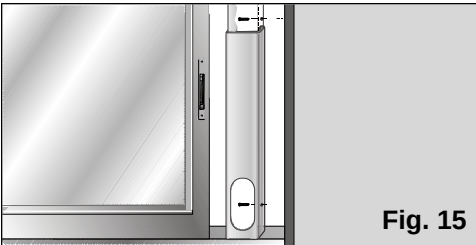

Fig. 15
- The accessory has two holes on the side to fit it to the window / balcony with. The user can secure it to the frame or wall with two screws (not included with the accessory) to prevent it from moving or falling out of place, Fig. 15.